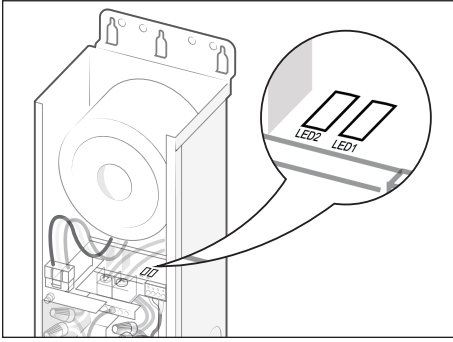

Figure 12. LED1 and LED2
9. Turn on the breaker to restore power (LED2 will turn on red and LED1 will start flashing green). Pool & Spa Lights will be off due to control from automation, see *Figure 12*.